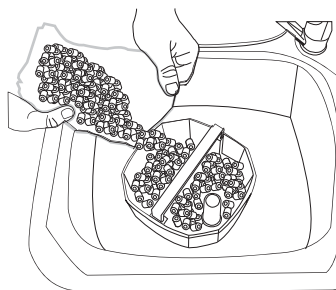

Fig 4
6. Follow the filter media setup instructions on the previous page which apply to your filter. Remember to remove all media from the plastic bags and rinse in tap water to remove excess dust. The simplest way to do this is empty the correct media into its basket and run tap water through it. Rinse the inside of the canister body in tap water. DO NOT USE ANY SOAPS OR DETERGENTS. Fig 4
12. Pull the hose from the inlet side of the filter up next to the inlet U pipe and line up. Fig 4